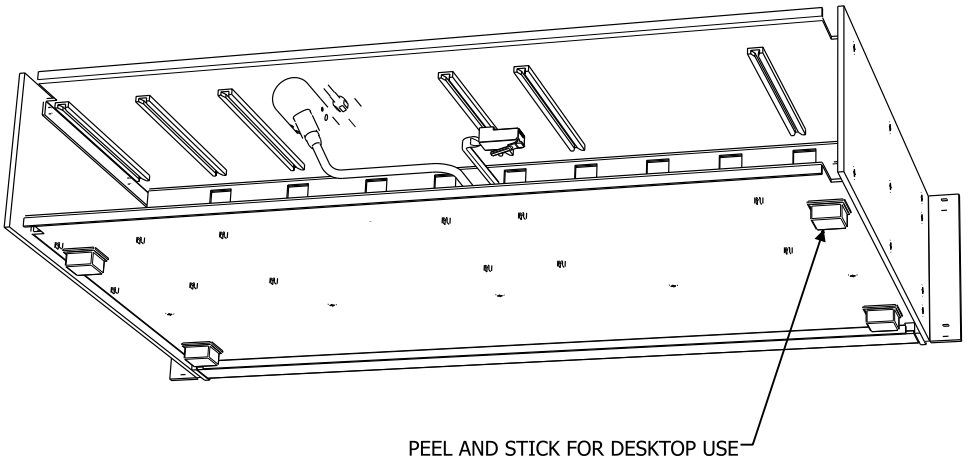

Figure 12 Installing rubber feet on the RMC-CCRP
In some applications it is desirable to have the RMC-CCRP configured as a desktop unit rather than rack mounted. In this case, four (4) self-adhesive rubber feet are included in the RMC-CCRP packaging and can be affixed to the bottom of the unit as shown in Figure 12. Note that the bottom deck of the chassis is slightly recessed below the side brackets, so for best stability in a desktop mounting application, it is highly recommended that the rubber feet be installed.